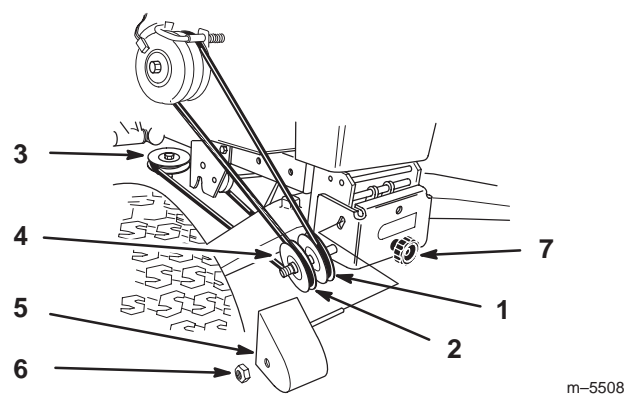

Figure 31
10. Route belt around V and flat pulleys and loop over top center mower pulley (Fig. 31).
11. Check that spacer is on the shaft and install the belt cover with rod in hole. Secure with locknut (Fig. 31).
12. Turn knob counterclockwise to tighten belt (Fig. 31). Tighten until there is 1 in. (26 mm) belt movement between engine clutch and idler pulley when slight pressure is applied to the belt.